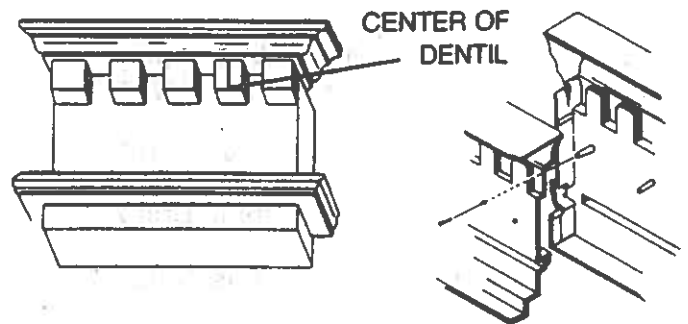

FIGURE 3
(1) To lengthen a mantel, cut the ends off of the two mantels so that you have a right hand and a left hand mantel section, each of which is one-half of the desired length. Be sure you cut through the center of the respective dentil blocks. (See Figure 3).
(2) To shorten a mantel, determine the required length and make two cuts to remove excess material from the center of the mantel. Be sure to cut through the center of respective dentil blocks. (See Figure 3).
(3) Turn the mantel sections face down and drill a 3/16" hole in the second indented hole marker (2-3/4") from cut edge of both mantel sections. Place mantel overlay face down under the cut and drilled mantel sections. The mantel overlay screw bosses will align with the 3/16" drilled clearance holes. Fasten together with the 2, #8 x 1/2" self-tapping screws provided.